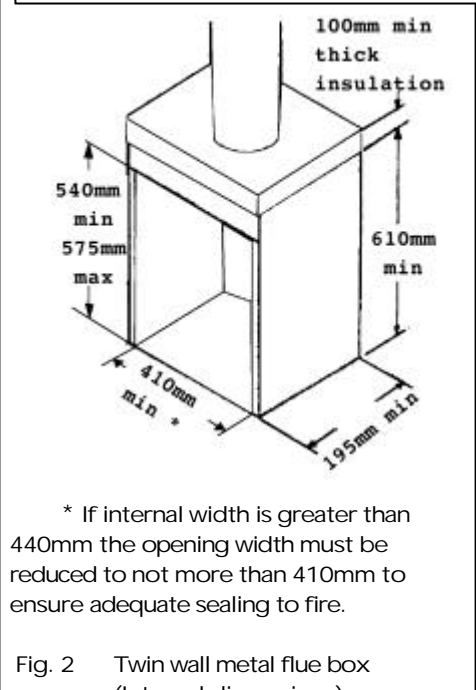

Fig. 2 Twin wall metal flue box
2.2.2 To a fireplace incorporating a twin walled metal flue box complying with the constructional requirements of the current edition of BS 715 and standing on a non-combustible base. The dimensions of the flue box must conform to the opening shown in figure 2. For flue details see sections 2.3 & 2.4.